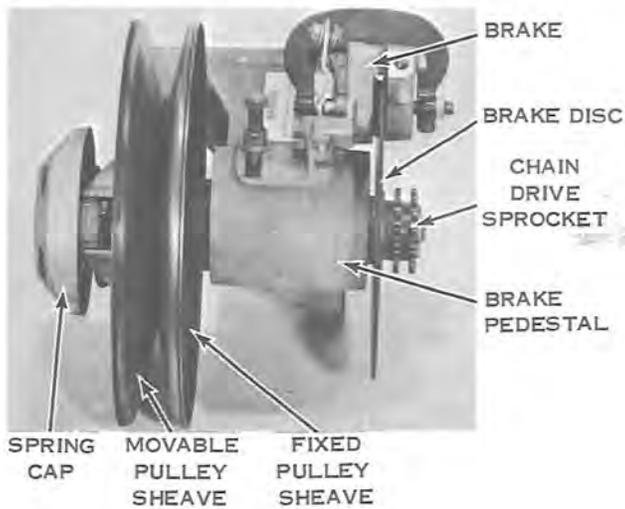

Figure 9-1. (1965)
- b. Disconnect brake cable (see Figures 9-1 and 9-2).
- c. Remove two screws attaching mounting pedestal to engine frame (see Figures 9-1 and 9-2). Remove secondary sheave assembly, drive chain, and drive belt.